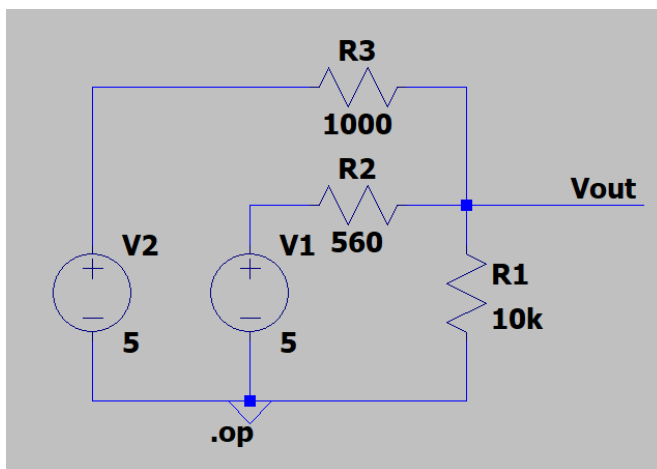

Fig. 1
21. Paste Fig. 1 below. (3pts)
<put Fig. 1 from your MATLAB code here>
22. Comment on the shape of Fig. 1 (is it linear, not linear, and is this what you would expect?). If you want to, you can obtain more voltage and current results for other resistor values and add them to your plots. Hint: It's probably not linear since we used a log scale for the x-axis. (3pts)
1. To start, build the circuit shown in Fig. 1 using your breadboard. Because two separate voltage sources are required, use the +25V supply as one power supply, and 6V supply for the other. To use both, turn on one, then use the appropriate button to switch to the other to turn it on. If you have connected everything properly, you should get V_{out} to be about 4.8 V when both sources are on.